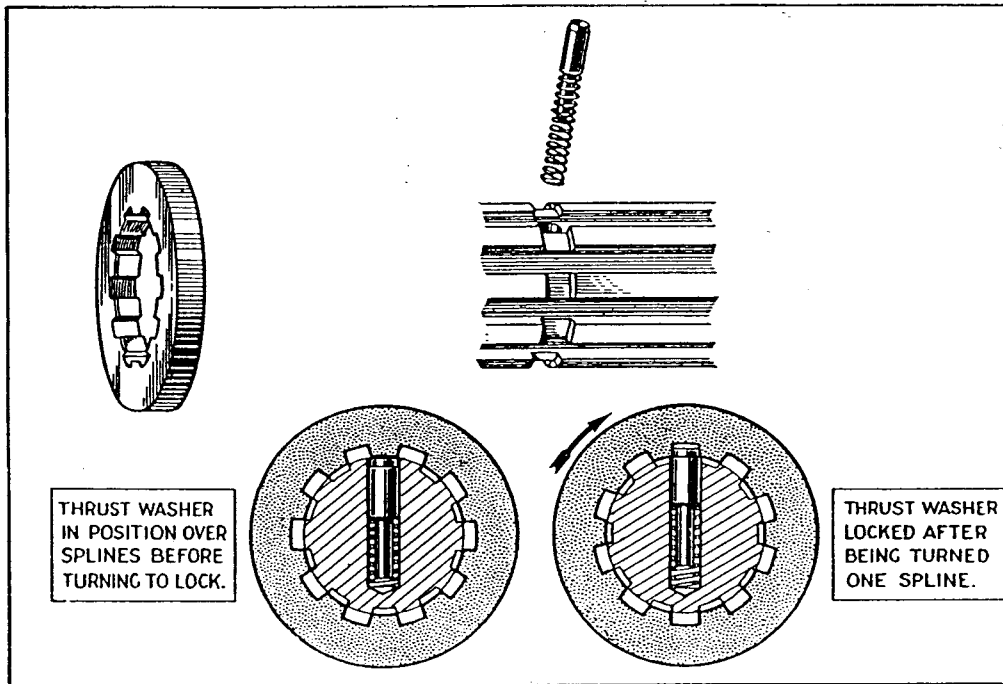

Fig. 11.
3. The laygear will then drop sufficiently for the gears to come out of mesh, and the Third Motion Shaft Assembly complete can be moved rearward and lifted from the box. (See Figs. 11 and 12 and accompanying text for detail of assembly of gears and shaft).